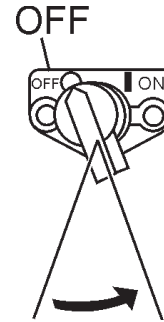

Figure 18. Engine ON/OFF Switch (OFF)
2. After the engine **cools**, turn the engine ON/OFF switch to the “**OFF**” position (Figure 18).